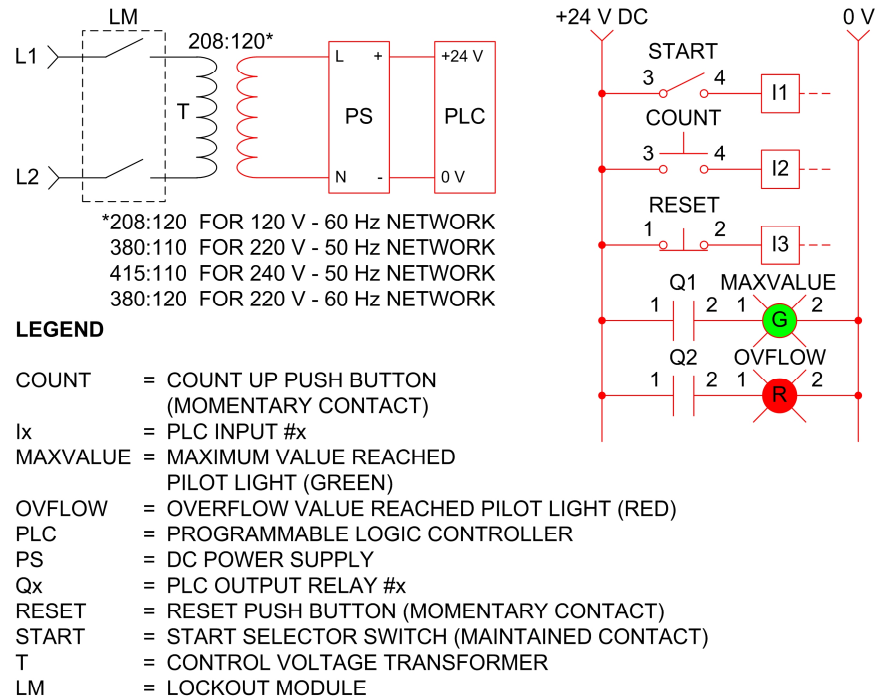

Figure 1-27. Connection diagram of the PLC counter and comparator circuit.
- ☐ 5. Connect the PLC inputs and outputs according to Figure 1-27.